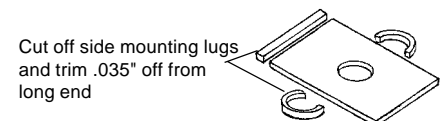

Fig.2b
5. This is a simple conversion with two basic options. Both options use a #27 coupler. You can glue the spring into the box, if you desire. Scrape both surfaces, use a tiny spot of glue and hold it snug until set. Modify a Kadee® #211 .015 Shim. Cut the side mounting lugs off and remove .035" from long end (short end goes toward the rear) see Fig. 2b.